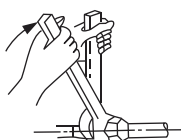

Fig.5-4
- Tighten it with a spanner and torque wrench (Refer to Fig.5-4)
- When connecting the refrigerant pipes, always use two wrenches/spanners to tighten or loosen the nuts ! (Refer to Fig.5-4) Otherwise, it will cause damage of piping connections and leakage .